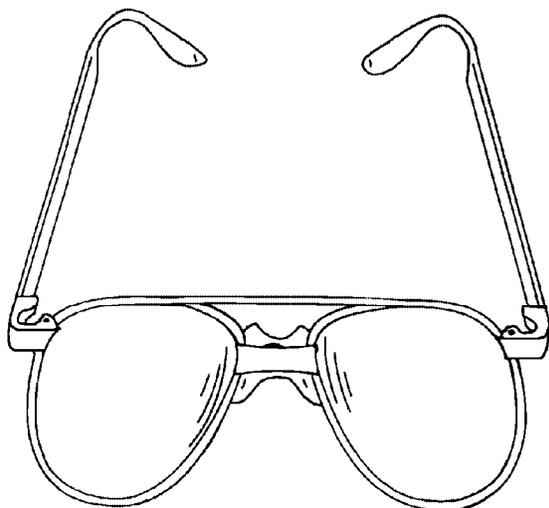

Figure 4-31. ARS Fitting Frames
**4-51. ARS Fitting Frames.** The Aircrew Respirator Spectacle (ARS) fitting frames (figure 4-31) provide a means for fitting aircrew personnel with corrective lenses, and are compatible with the mask. The ARS fitting frames are available in five sizes. Fitting frames with prescription lenses shall be ordered through the Naval Ophthalmic Support and Training Activity (NOSTRA), Yorktown, Virginia. Prescriptions shall be mailed or faxed, utilizing form DD771 (figure 4-29) to NOSTRA, requesting ARS fitting frames. Specify temple length. Contact: